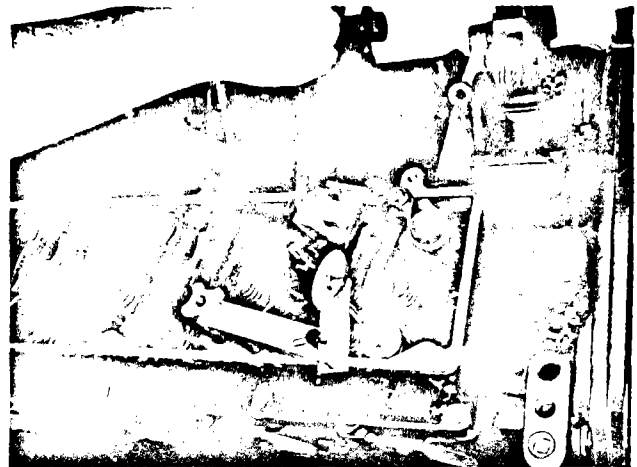

Fig. 2-39, (V514128). Bottoming injector plunger in cup — V-903
2. Screw the injector lever adjusting screw down until the plunger is bottomed in the cup, back off approximately 1/2 turn then bottom again, set the dial indicator at zero (0).
4. Using ST-1251 Rocker Lever Actuator, bottom the injector plunger, check the zero (0) setting, Fig. 2-39. Allow the plunger to rise slowly, the indicator must show the plunger travel to be within the range specified in Table 2-10.